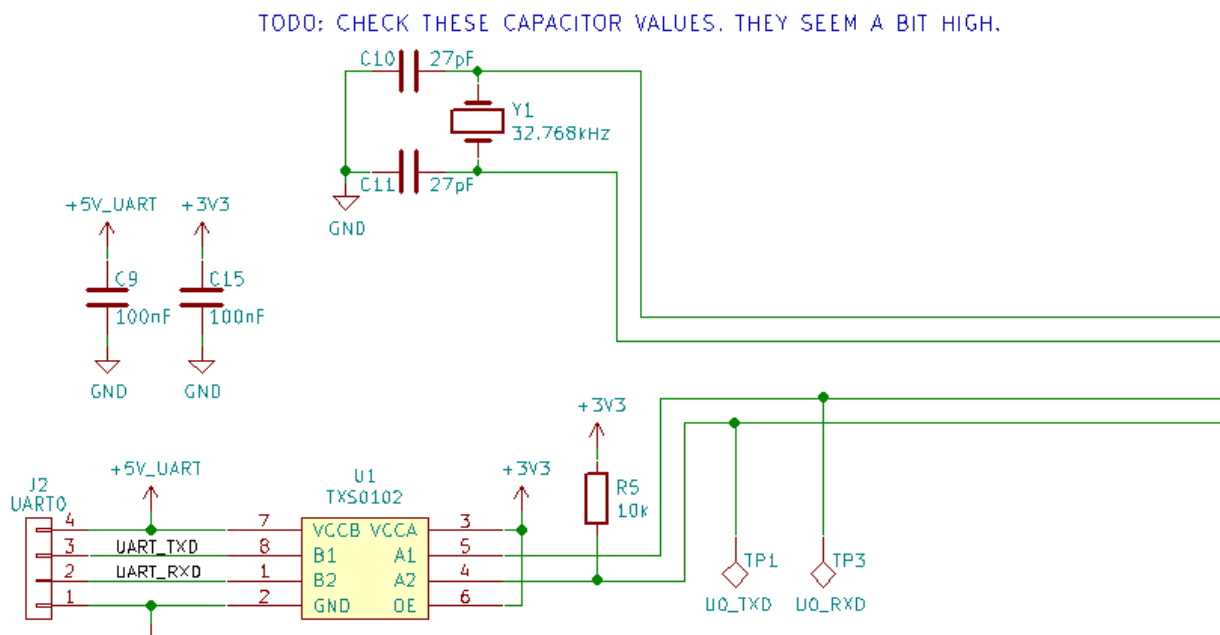

Figure 9 – Net Spacing and Text
21) Spacing between nets on the same function block should be 100 mil as shown in the right side of **Figure 9**.
22) Notes and TODOs should be added in 1.524 size text as shown in **Figure 9**.